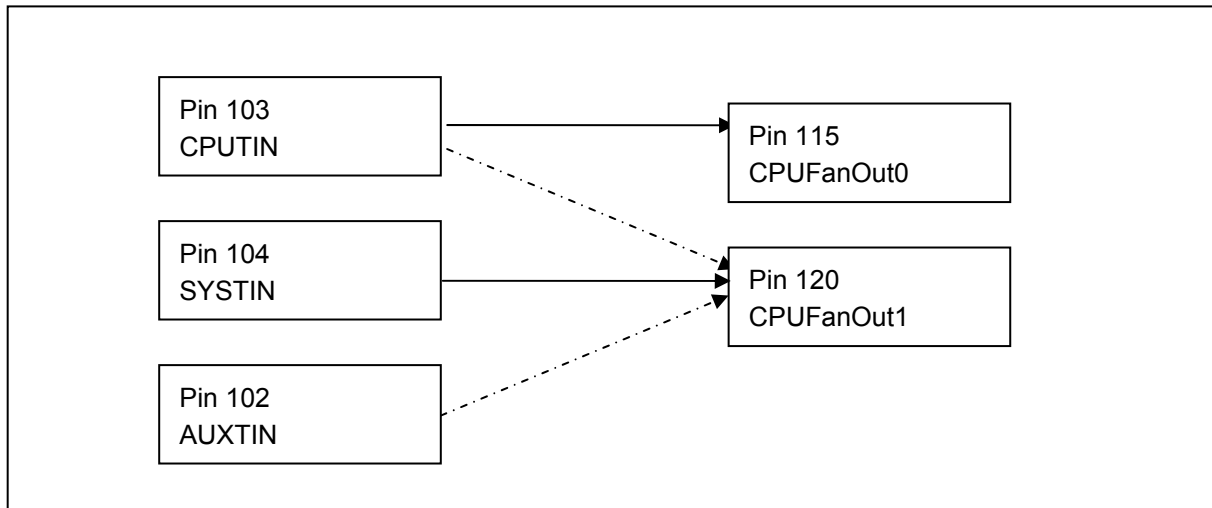

Figure 6.9, 6.10, and 6.11 illustrate SMART FAN™ III mode, and the algorithm of fan speed control is described as follows:
- (1) Figure 6.9 shows the initial condition of SMART FAN™ III. Target Temperature, Temperature Tolerance, Maximum Fan Output and Minimum Fan Output must be set first. If the currently measured temperature is within the (Target Temperature $\pm$ Temperature Tolerance), the fan speed remains constant.
- (2) In the case that currently measured temperature goes beyond (Target Temperature +